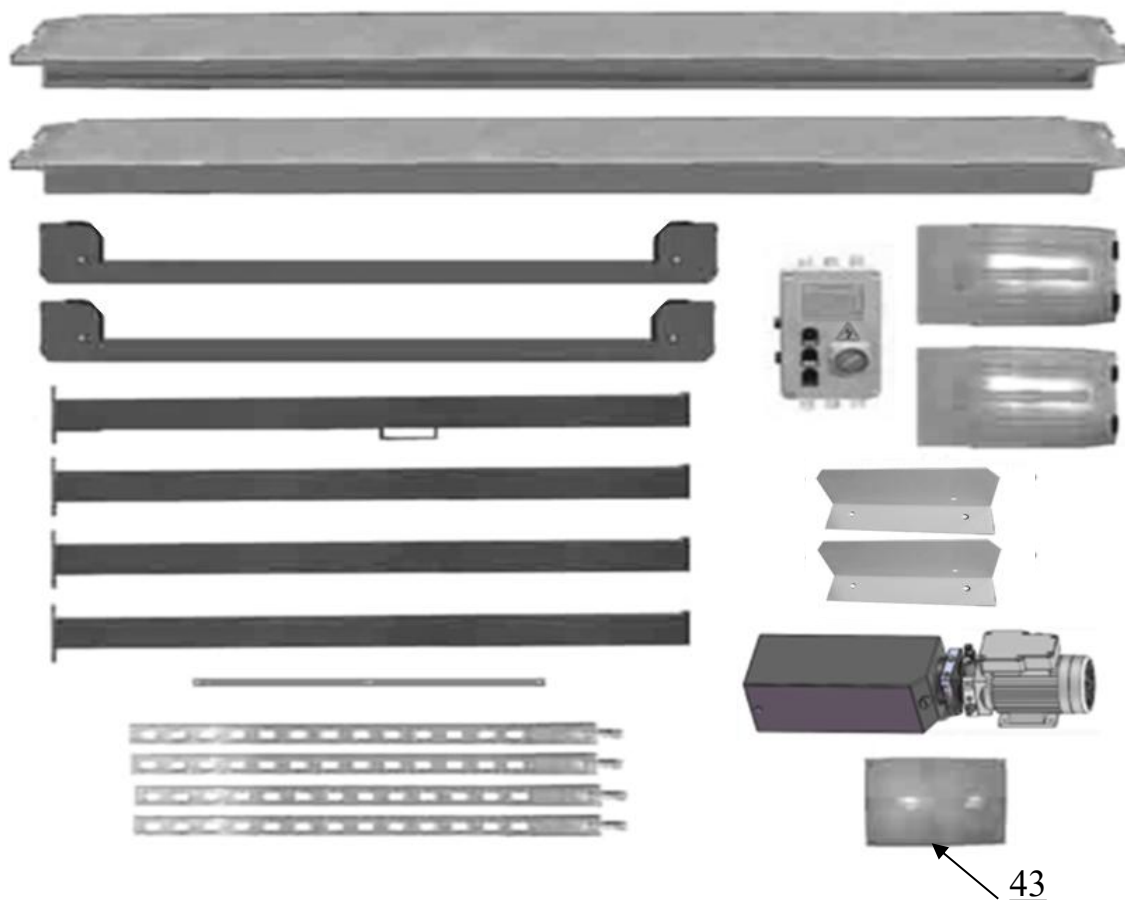

Fig.10
6. Move aside the parts and check the parts according to the shipment parts list (**See Fig. 10**).